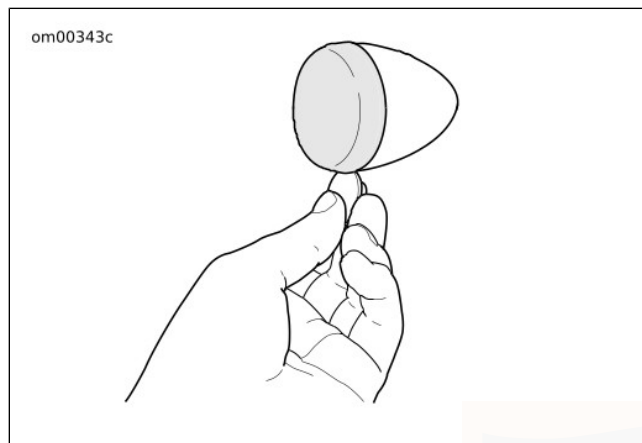

Figure 49. Remove Lens
1. See Figure 49. Insert a coin or the blade of a small screwdriver into the notch at the bottom of the lens cap. Carefully twist until the lens cap pops out of the lamp housing.